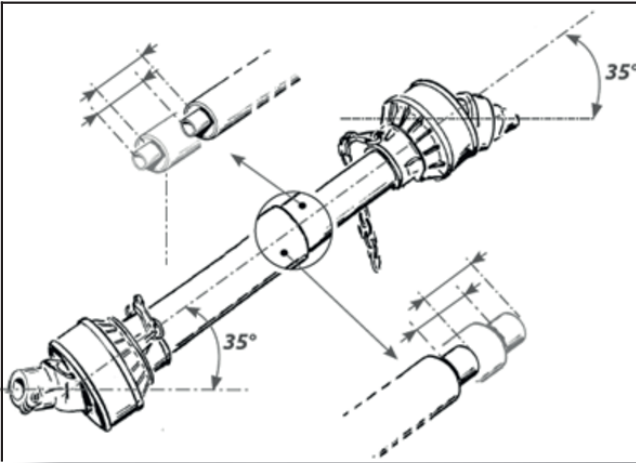

Figure 15- An example of a maximum drive line angle.
- To keep PTO shaft in good working order, make sure that the working positions do not exceed the maximum drive angle of 35° for standard transmissions and 80° for wide angle transmissions. (Figure 15)